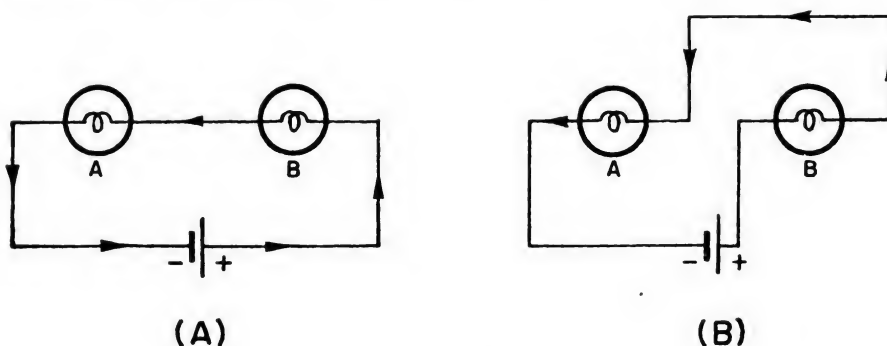

Figure 13.—Series circuit.
In (A) of figure 13 you have two devices connected in a SERIES CIRCUIT. In (B) of figure 13, the connections are changed so that they reverse